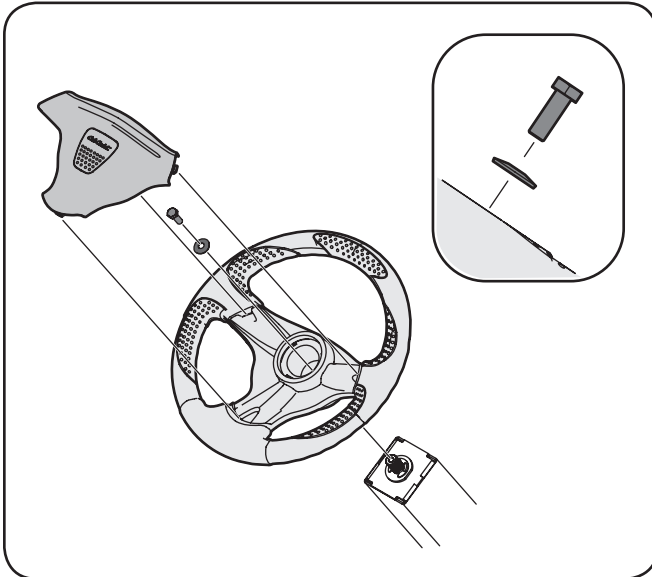

Figure 3-7
3. Place the belleville washer with the cupped side facing inward over the steering wheel and secure with the hex lock screw. See Figure 3-7.